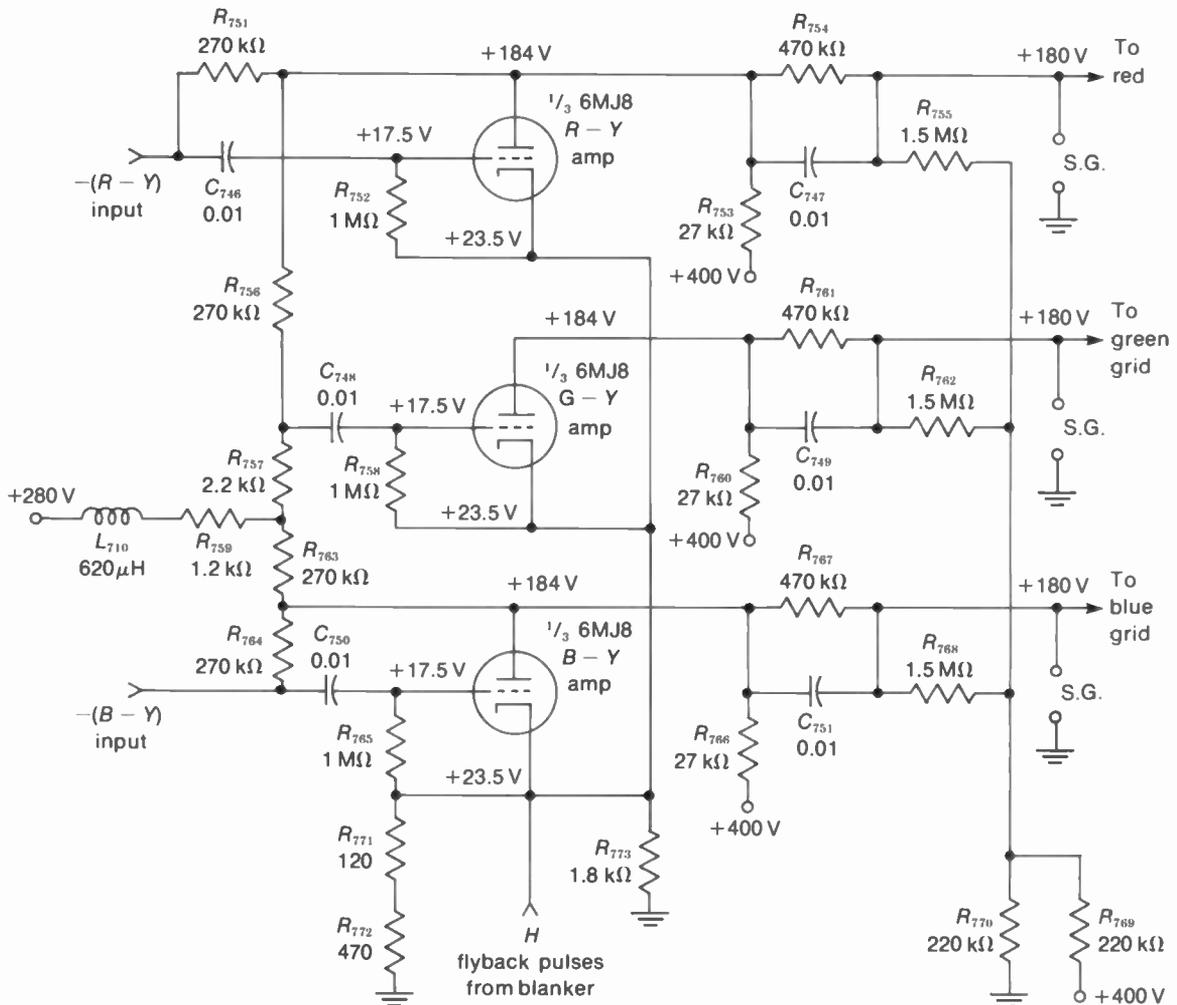
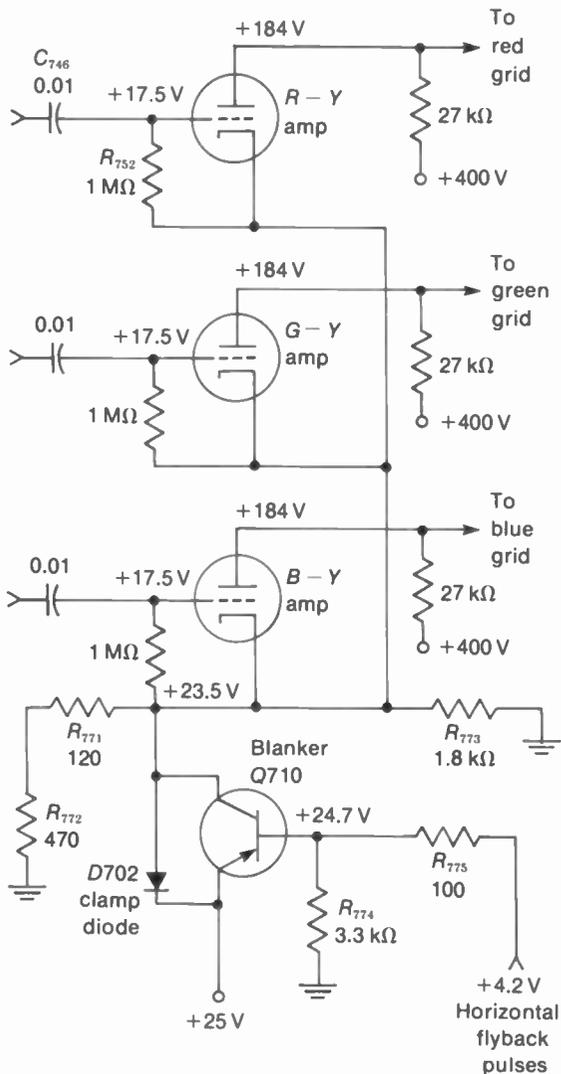

FIGURE 17-26 CIRCUIT FOR COLOR-DIFFERENCE AMPLIFIERS. *R* IN OHMS AND *C* IN MICROFARADS. S.G. IS SPARK GAP FOR GRID OF PICTURE TUBE. (FROM ADMIRAL CHASSIS 2K20)
FIGURE 17-29 DETAILS OF BLANKER STAGE, FROM CIRCUIT IN FIG. 17-26.  $R$  IN OHMS AND  $C$  IN MICROFARADS.
**Color-difference amplifier stages.** In Fig. 17-26, triple-triode 6MJ8 is used for all three color video amplifiers. The  $G - Y$  signal is obtained by combining signals from the  $R - Y$  and  $B - Y$  stages. One source is the common-cathode resistor  $R_{773}$ , which is in parallel with the
The input signals are ac-coupled to the amplifiers by  $C_{746}$ ,  $C_{74H}$ , and  $C_{750}$ . In each stage, the coupling capacitor blocks any dc component of the signal level. However, the dc level is restored, effectively, by grid-leak bias. Then the amplified plate signal for each amplifier is directly coupled to its respective grid in the picture tube. The dc coupling means that the dc component reinserted in the grid circuit is applied from the plate circuit as part of the video signal drive for the picture tube. Grid-leak bias results from horizontal flyback pulses applied to the cathodes from a transistor blanker stage. More details of the blanking will be shown in Fig. 17-29.
Figure 17-29 shows the same color-difference amplifiers as Fig. 17-26 but with the blanker Q710 added. This stage provides horizontal
**Troubles in the ac color signal.** These effects are just in the color; the monochrome picture is normal. The different possibilities are no color at all, weak color, no color sync, wrong hues, and trouble in just one color. These are considered separately in the next sections. Remember that the 3.58-MHz signal is for all the colors. Only the individual color video signals after the demodulators have separate colors. However, these stages may all be in one common tube or IC unit. Also note that the color video amplifiers in Fig. 17-26 have one common-cathode resistor, which is  $R_{773}$ .